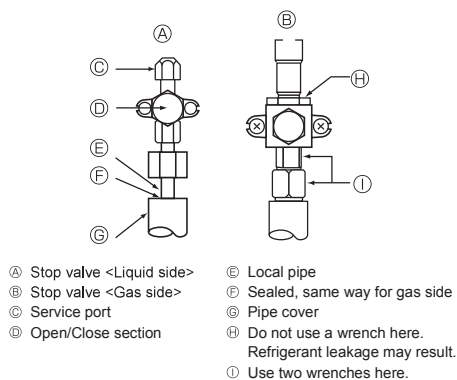

Fig. 4-5
4.4. Refrigerant pipe airtight testing method (Fig.4-5)
- Make sure the stop valves ① ② are closed and do not open them.
- Add pressure to the refrigerant lines through the service port ③ of the liquid stop valve ①.
- If the pressure decreases in steps (2) or (3), there is a gas leak. Look for the source of the gas leak.